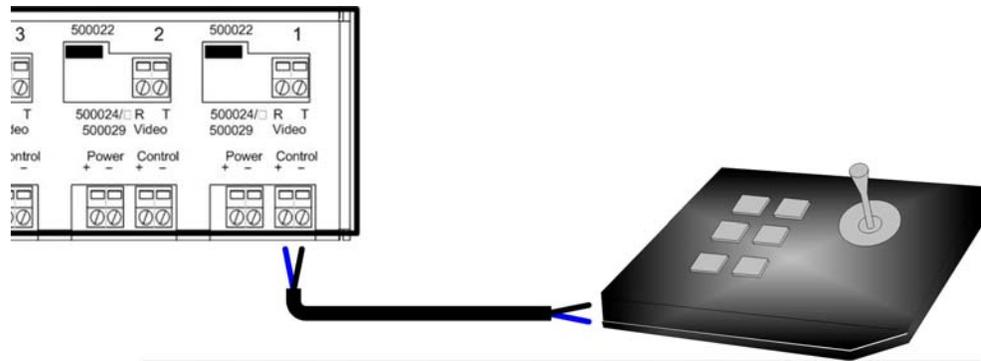

Figure 17: PTZ connection, Model 500131
11. If PTZ Control is to be transmitted to the camera, verify that the distance between the camera and the hub is within the distance specifications for sending PTZ control over twisted pair. Consult the PTZ equipment vendor for maximum distances. Please ensure that the port switch is set to Pass-Thru Mode (500022). When the port switch is set to Pass-Thru Mode (500022), one (1) twisted pair is used for PTZ control. For optimum results, it is recommended to use control protocols such as RS-422, RS-485 or Bi-phase. **Due to crosstalk issues, RS-232 is not recommended.**
12. Connect two (2) wires between the PTZ controller and the “Control” terminals on the hub (fig 17).